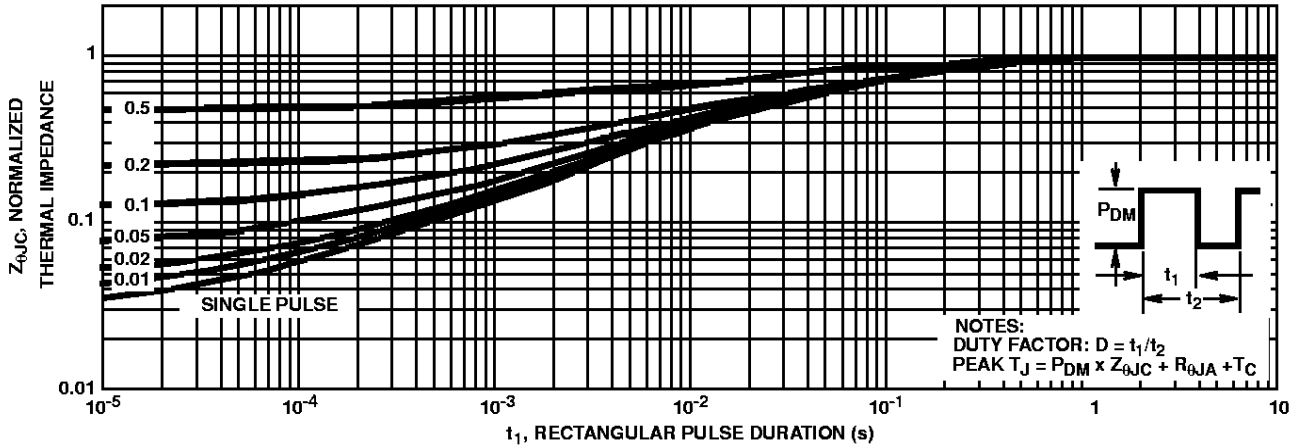

FIGURE 3. NORMALIZED MAXIMUM TRANSIENT THERMAL IMPEDANCE
- Repetitive rating: pulse width limited by max junction temperature. See Transient Thermal Impedance curve (Figure 3).